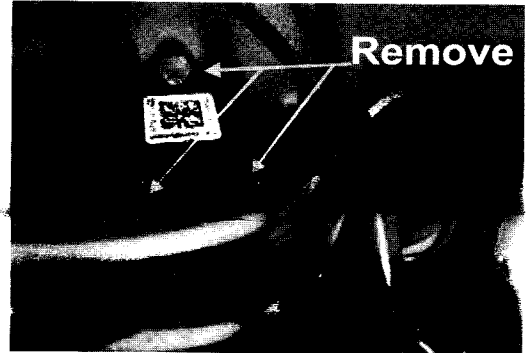

Figure 3
5. Using your needle nose pliers remove the two wires from the capacitor, then using the 1/4 inch nut driver remove the 1/4 inch hex head screw from the capacitor and remove the old capacitor, Figure 3.